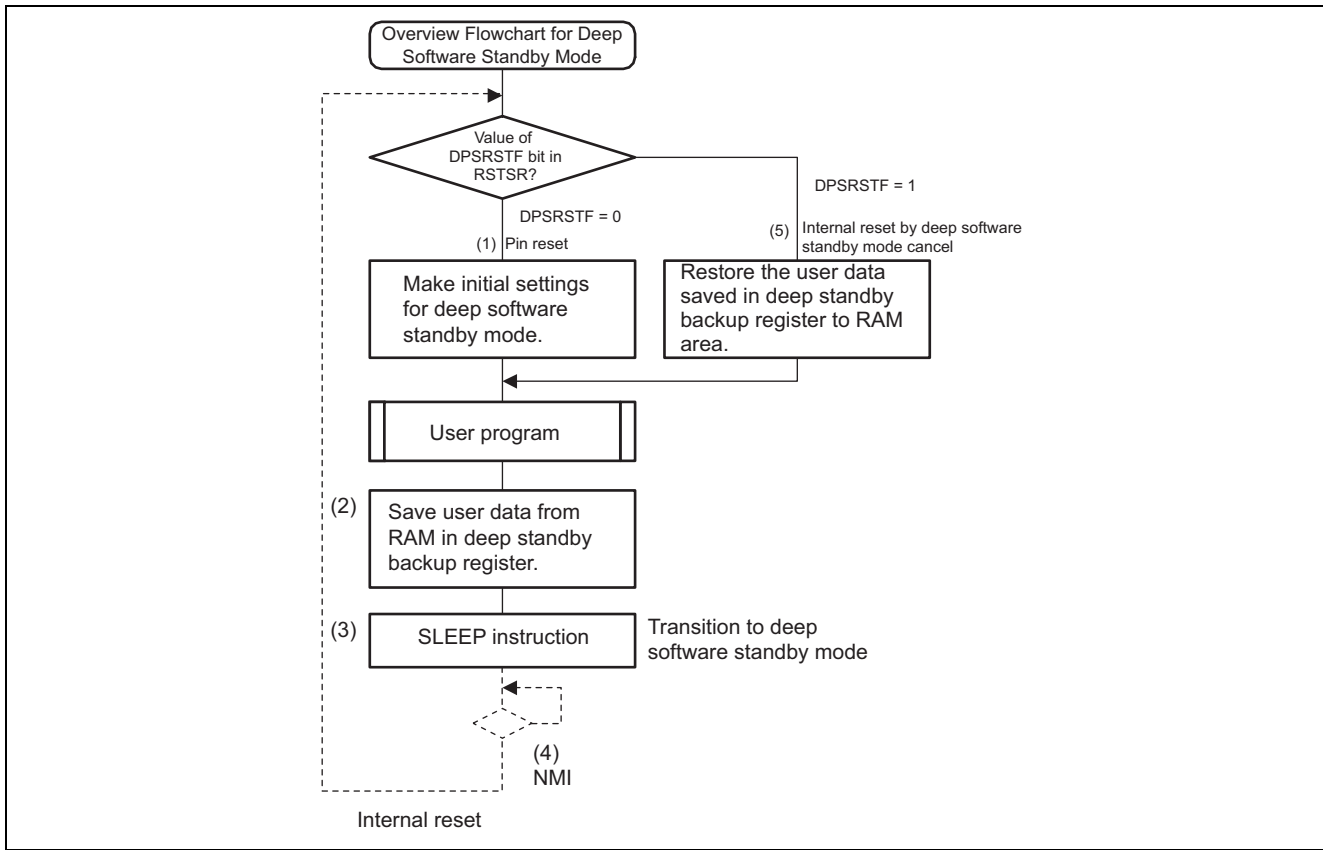
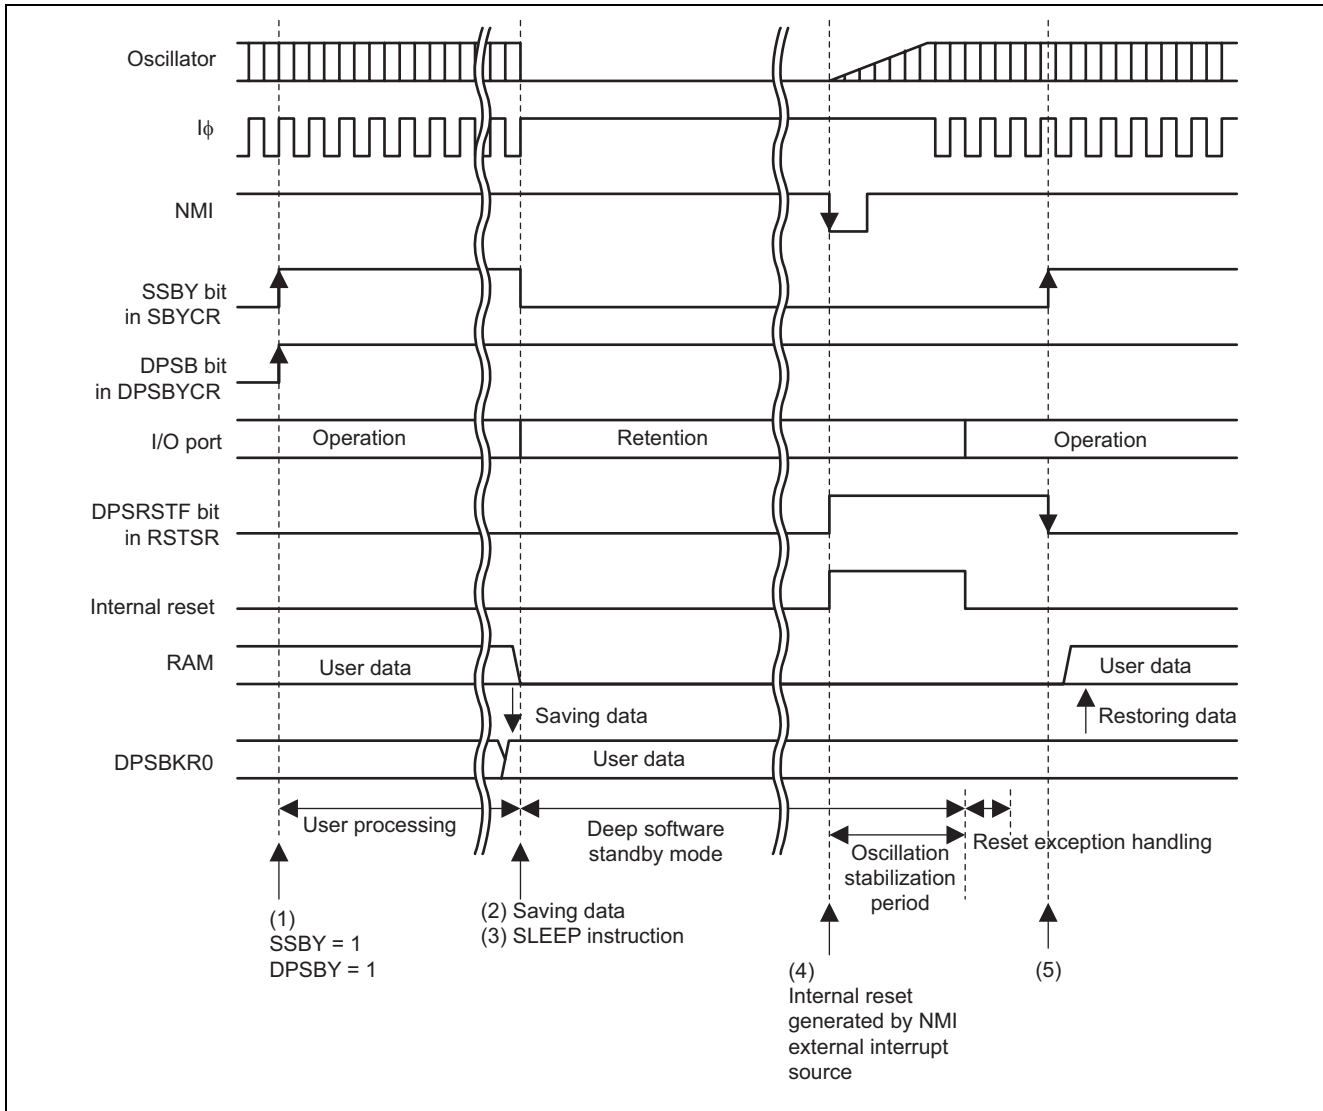

Figure 2 Overview Flowchart
Figure 3 Operation Timing
The flow of processing of this sample task is given in figure 2. The timing of operation of this sample task is shown in figure 3. This flow of processing is described in chronological order below. Operations (1) to (5) in figure 2 and figure 3 correspond to steps (1) to (5) below.